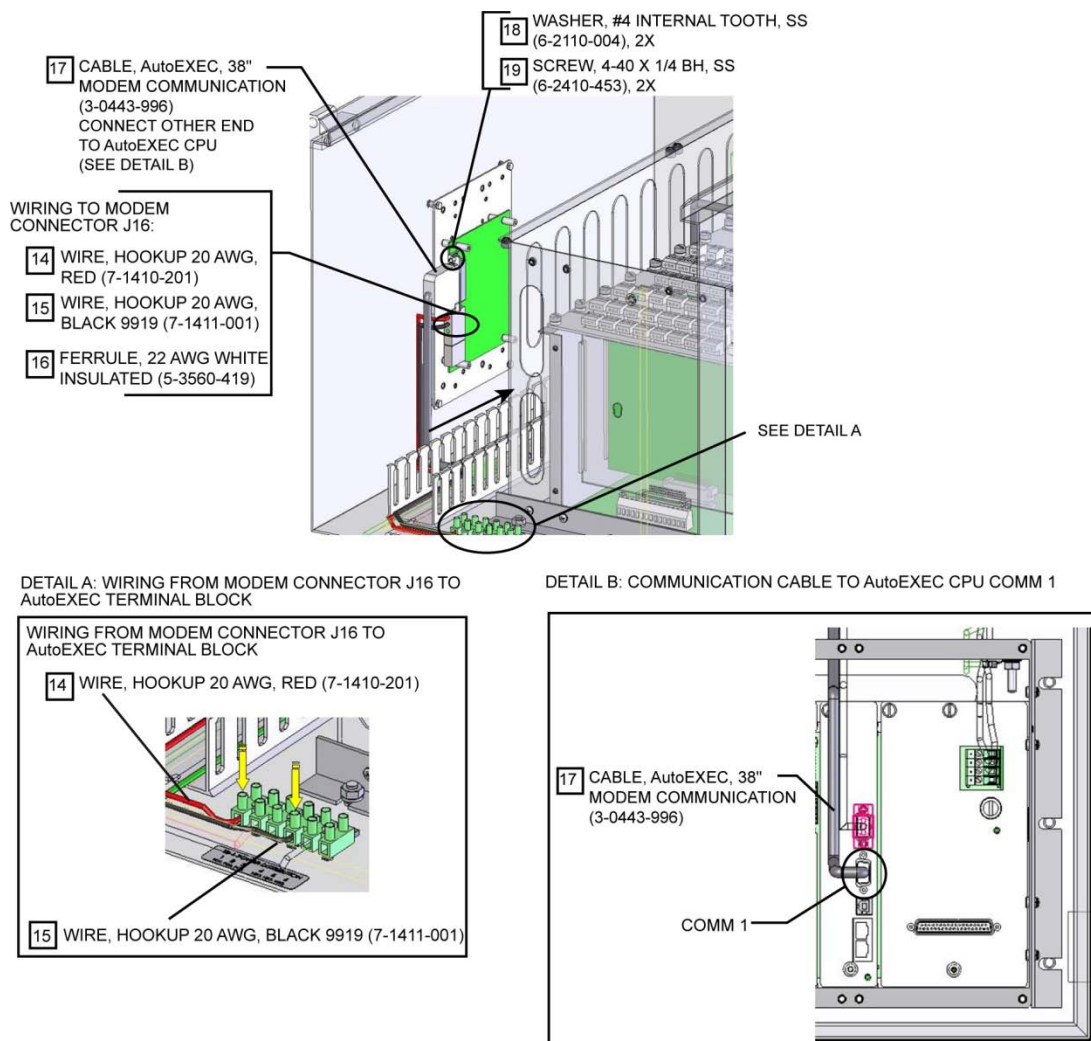

Figure 4-12. Modem connections
5. Reference Figure 4-12 for the following steps.
- Crimp the red and black wires (items 14 and 15) with a ferrule (item 16). Attach and secure the wires to the connector J16 as shown in the figure.
- Connect the red wire (item 14) to TB1 position 1-3 (POS) and the black wire (item 15) to TB1 position 4-6 (NEG).
- b. Connect the communication cable (item 17):
- Using the washers and screws (items 18 and 19) connect the cable (item 17) to the modem at J11.